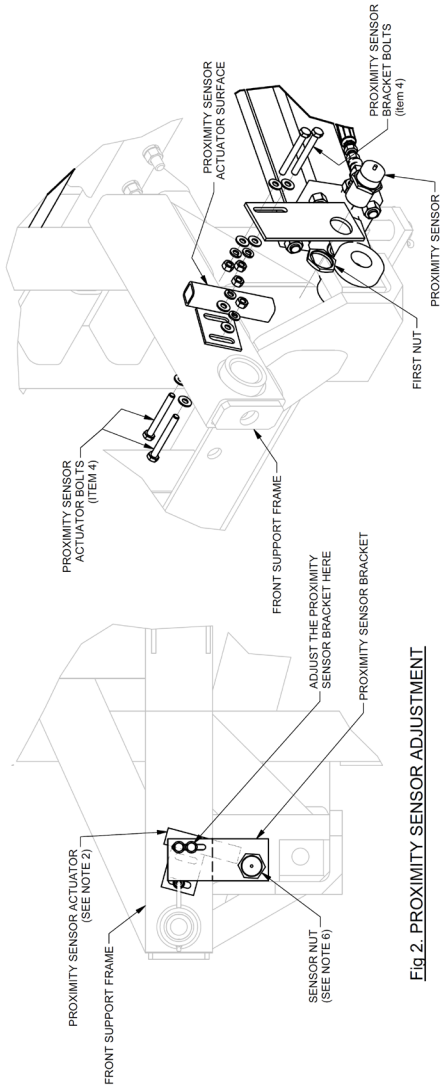

Fig. 1. PROXIMITY SENSOR ASSEMBLY
2. Install parts as shown in Fig. 1.
3. Install the sensor by removing the first nut and slipping the sensor through the opening in the sensor support face first as shown in Fig. 1. The cable should be pointing to the outside of the TMA. Reinstall the nut that was just removed so the two nuts sandwich the sensor support (item 5).